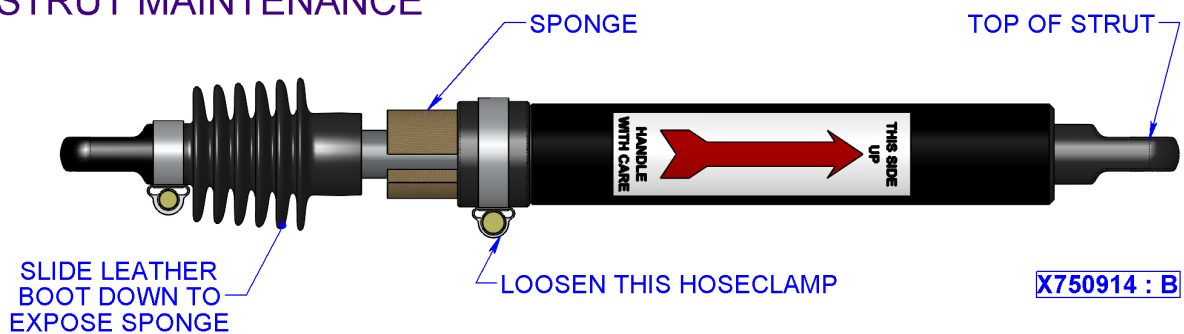

Figure 11: LBM800 - Strut Maintenance
5.2.4 To ensure maximum lifetime of struts, it is recommended that the greasing sponge underneath the leather boot has fresh grease applied to it annually. To do so, follow these steps (refer figure 11) (regreasing may be carried out without supporting the weight of the arm as struts will not be disconnected):